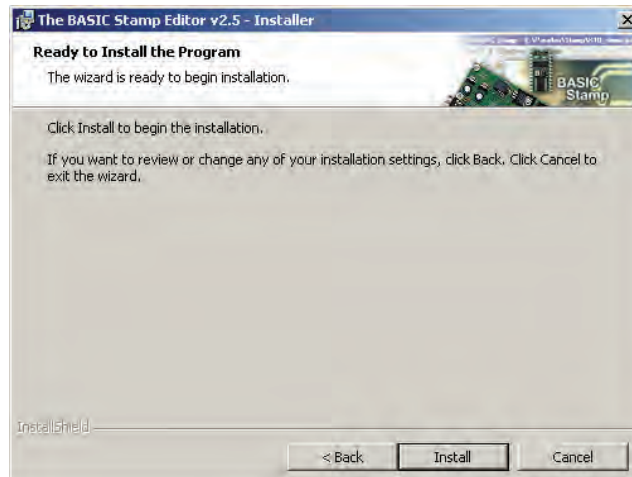

Figure 1-15
- ✓ When the “Ready to Install the Program” message appears (Figure 1-15), click the Install button. A progress bar may appear, and this could take a few minutes.